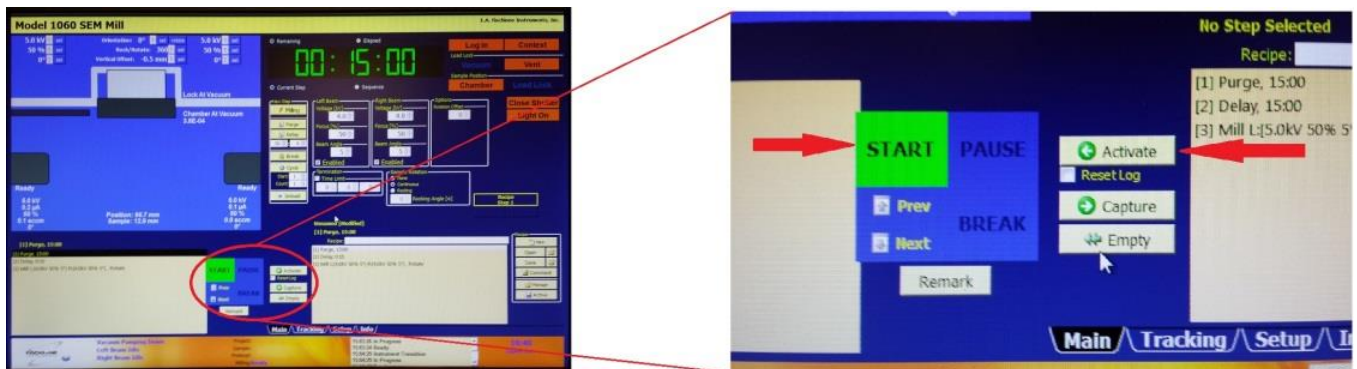

Figure 12
12. Once all of the steps have been selected in the step window, click on the “**Activate**” (Figure 12) button, to the right of step window, to send all steps in the “**Steps Window**” to the “**Currently Active Recipe**” window. Click on “**Start**” to begin the steps of the recipe.